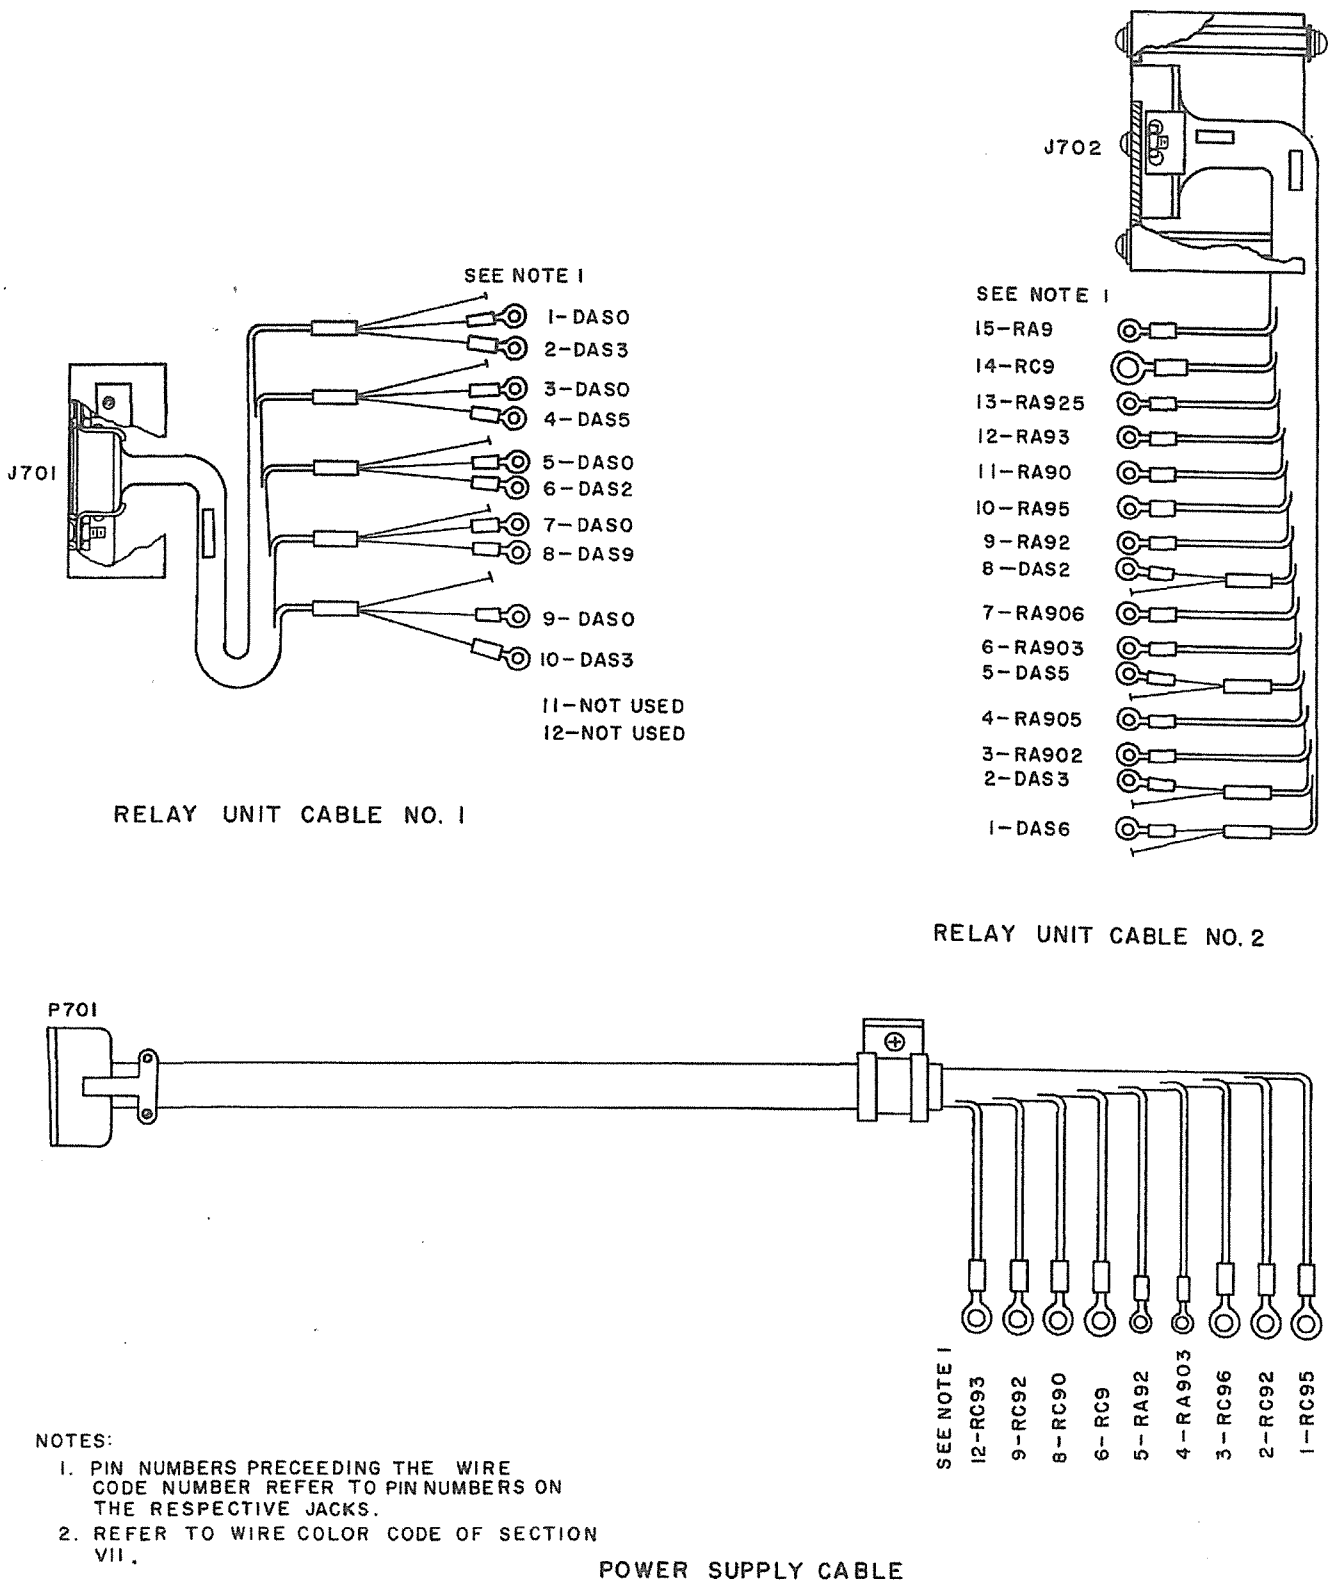

Figure 2-15. No. 1 and No. 2 Relay Unit Cables and Power Supply Cable
a. With subassemblies placed in rack shelf as in paragraph 2.2.4.2, steps c. and d., connect the wiring cables shown in figure 2-14. Color code and terminal information may be found in figure 2-15.